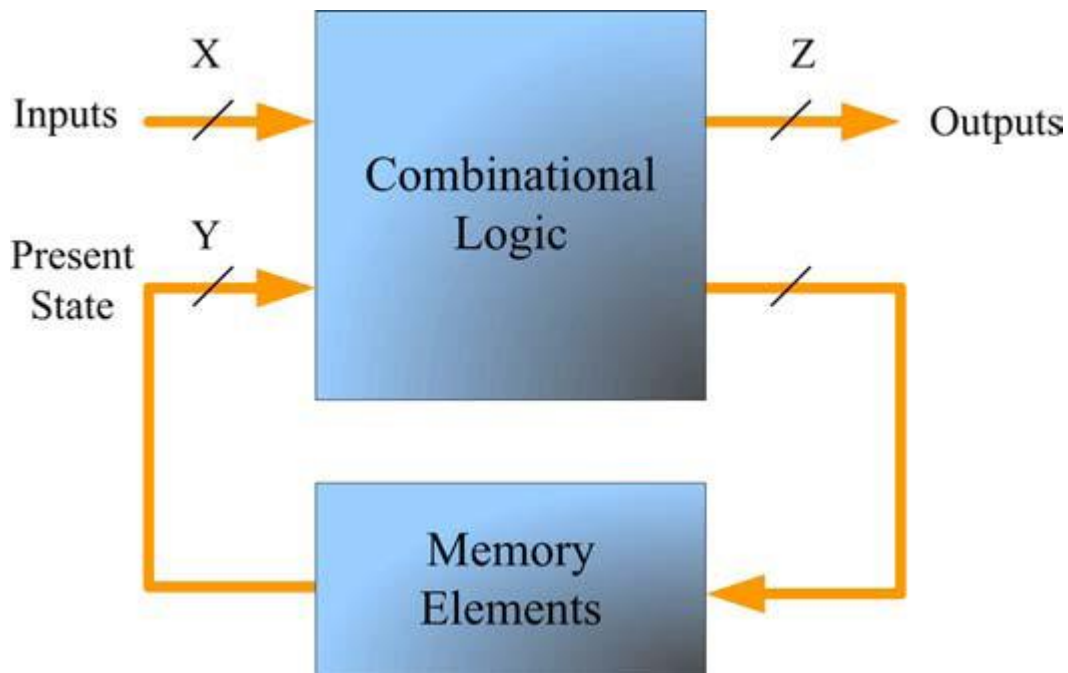

Figure 1: Mealy Type Machine
- In a Mealy machine, the outputs are a function of the present state and the value of the inputs as shown in Figure 1.